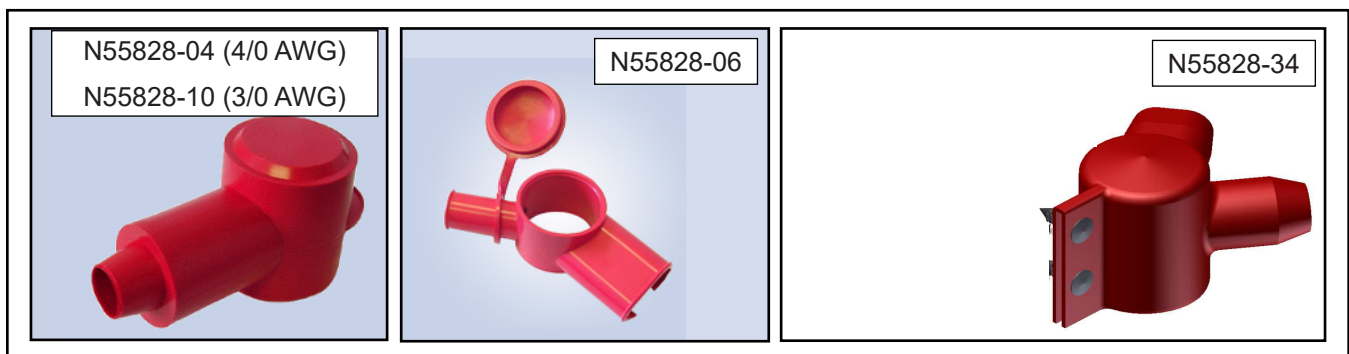

Figure 17 - Typical View of Different Protective Boots
- 2.25. Insert a new protective boot into the cable if it was found damaged or missing during inspection (see Figure 17).